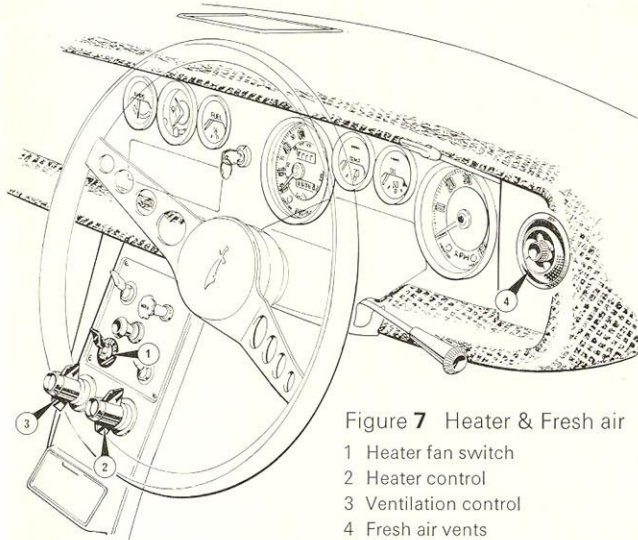

Figure 7 Heater & Fresh air
**Heater fan switch (1) Figure 7**
**Heater control (2) Figure 7**
**Ventilation control (3) Figure 7**
**Fresh air vents (4) Figure 7**